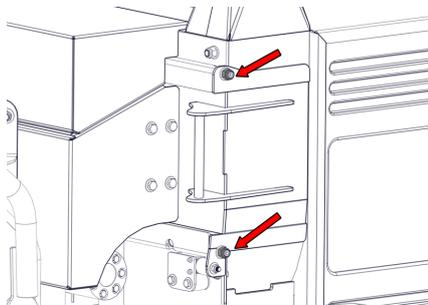

Figure 24 - Rotor Housing Access Hatch
3. Remove the two nuts and washers retaining the rotor housing blade access hatch and remove the hatch (Figure 24).